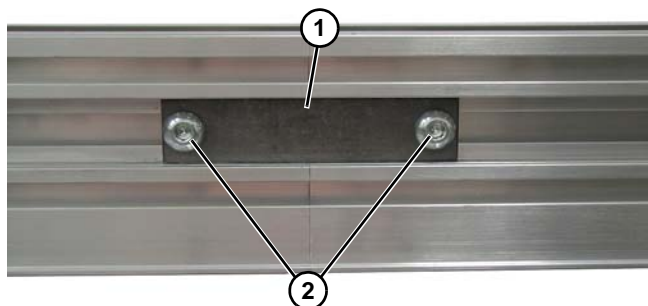

Figure 11
4. Join conveyor sections and install connector brackets (**Figure 11, item 1**) and screws (**Figure 11, item 2**) on both sides as indicated. Tighten screws to 60 in-lb (7 Nm).
2. Join conveyor sections and install connector brackets (**Figure 11, item 1**) and screws (**Figure 11, item 2**) on both sides as indicated. Tighten screws to 60 in-lb (7 Nm).